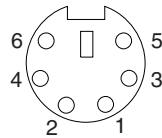

Figure 15. BladeCenter T Mouse connector
- **Mouse connector:** The Blade Center T KVM module contains one PS/2 mouse connector (see Figure 15).